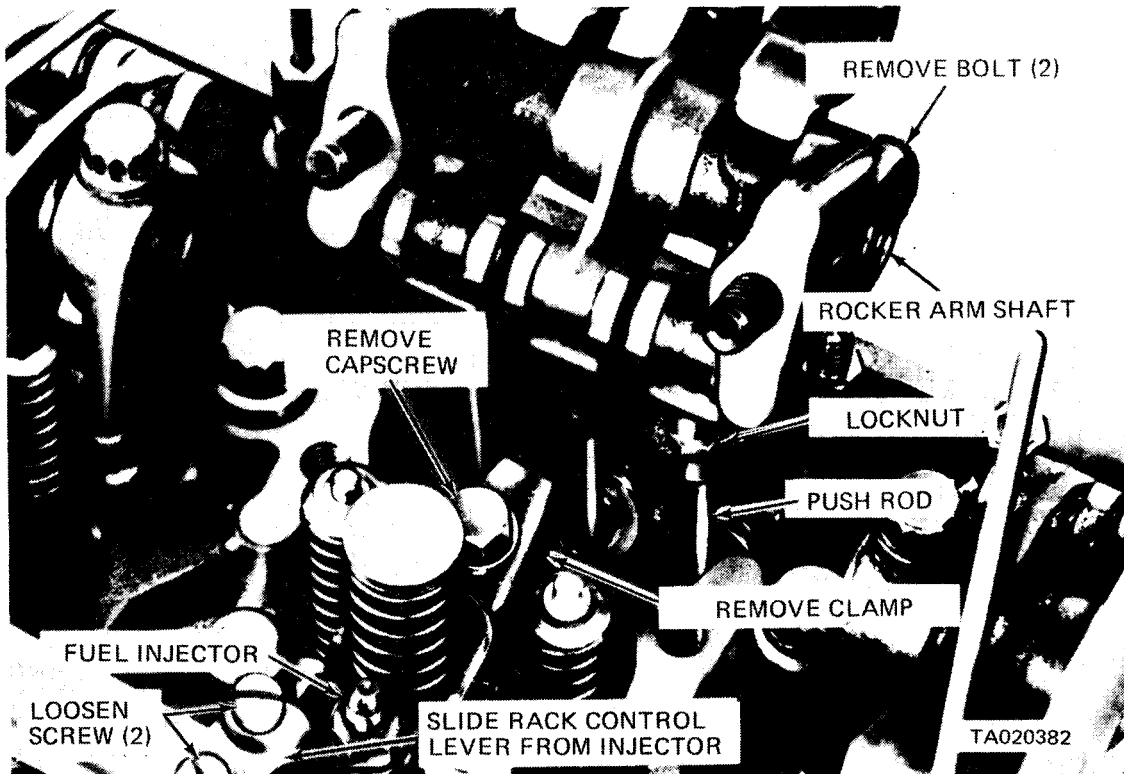

Figure 3-31. Rocker arm bolts and injector clamp, removal and installation.
(1) Prior to installing the fuel injector perform all the tests listed in *c* above.
(2) Before installing the fuel injector wipe carbon deposits from the beveled seat in the injector tube. Use care to prevent entry of foreign material into the engine.
(3) Use the injector tube bevel reamer to clean carbon from injector tube. Exercise care to remove only the carbon so that the proper clearance between injector body and cylinder head is maintained. Pack flutes of reamer with grease to retain carbon removed from injector tube.
(4) Fill the injector with clean fuel oil until it runs out of the outlet cap.
(5) Install the fuel injector (fig. 3-31) as follows: